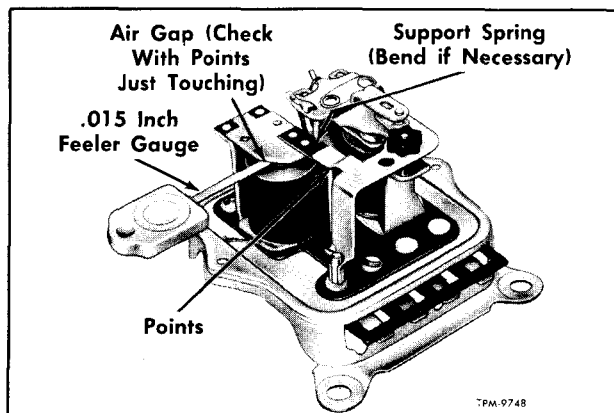

Figure 22—Adjusting Field Relay Air Gap (Two-Unit Type Regulator) (Typical)
3. Referring to figure 22, insert an 0.015-inch feeler gauge between the armature and core and exert just enough pressure on the armature to allow it to touch the gauge. The contact set should just close at this time.